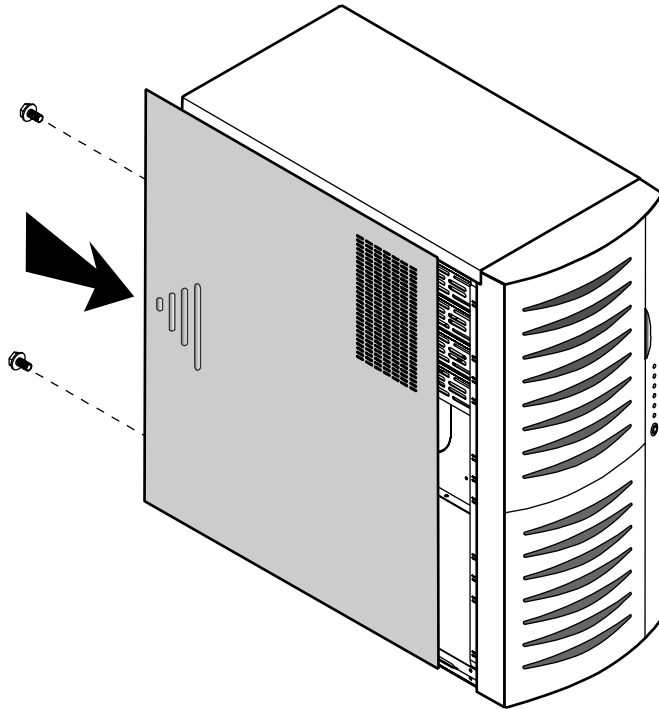

Figure 6: Reinstalling the Side Panel
2. Slide the panel toward the front of the chassis (see Figure 6).